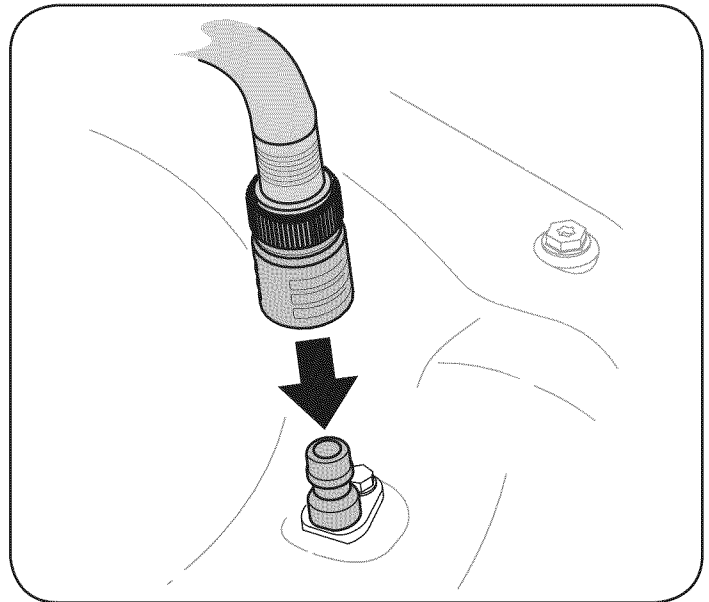

Figure 16
3. Attach the hose coupler to the water port on your deck's surface. See Figure 16.